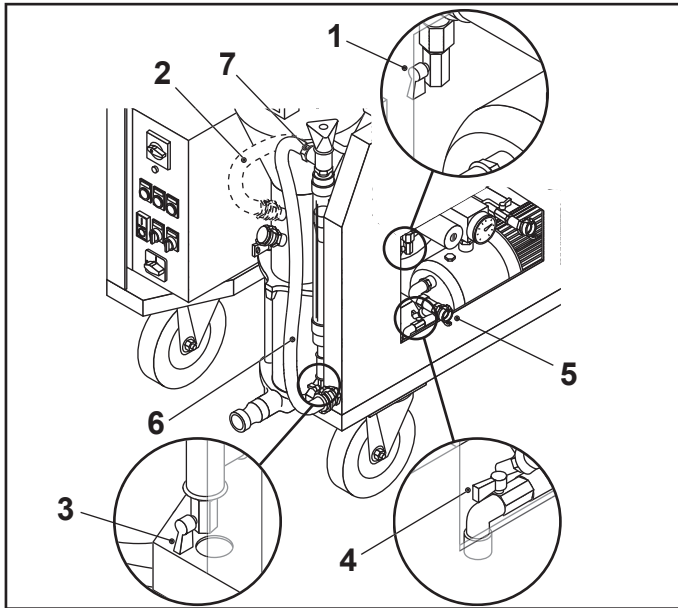

FIG.32
- After about 10 seconds or so, stop the material pump by putting the main disconnecting switch (FIG.32-REF.1) on OFF.
- Disconnect the hose (FIG.32-REF.2) from the mixing chamber.
- Connect the air hose (FIG.32-REF.6) to the quick coupling (FIG.32-REF.7) or (FIG.32-REF.5).
- Open the drain valves (FIG.32-REF.1-3-4).